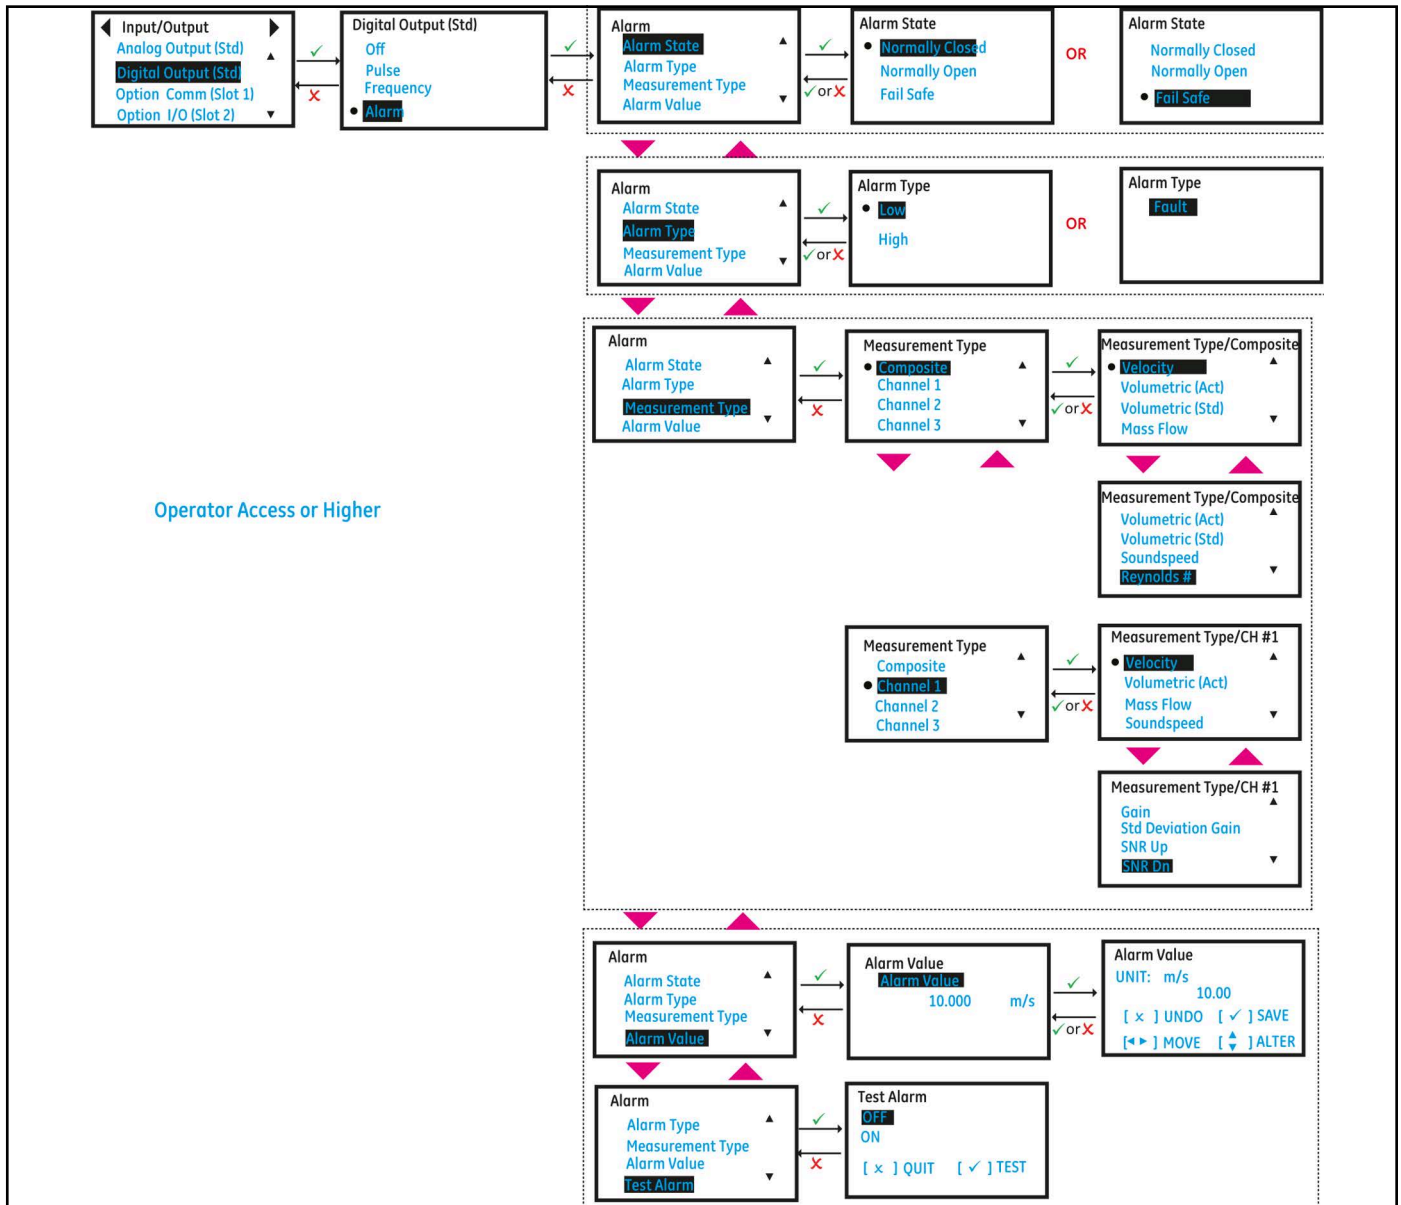

Figure 34: Setting up Alarm Output
2. Select the **[Alarm State]**, **[Alarm type]**, **[Measurement Type]**, **[Test Alarm]** and **[Alarm Value]** options to suit your needs. The *Figure 34* below, shows the available options. Also refer to the *Table 14* below to understand each option.